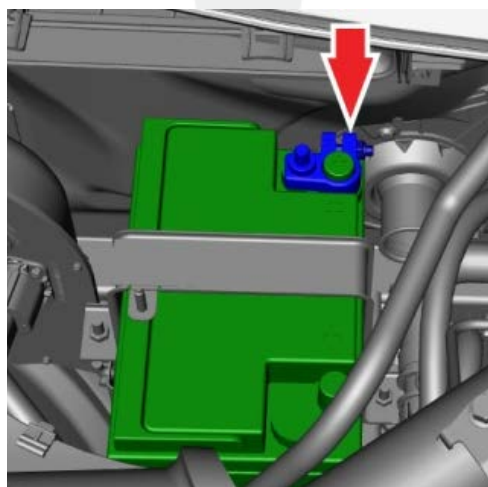

Figure 7 (Shown with battery fuse box removed for clarity)
13. Working from the inboard rear corner of the battery, loosen the 12V battery positive terminal nut (torque 3.6 Nm) (Figure 7).